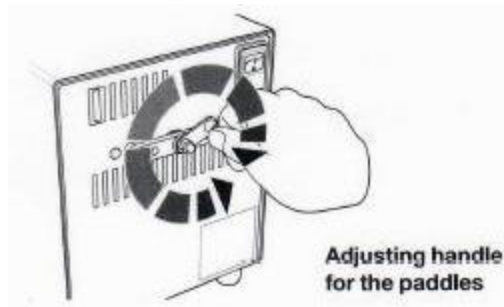

Fig. 3
- According to the nature and the size of the sample, adjust the size of the blending chamber. (Figure 3)
Blending is not satisfactory	Adjust the paddle position using the handle behind the unit (Figure 3)